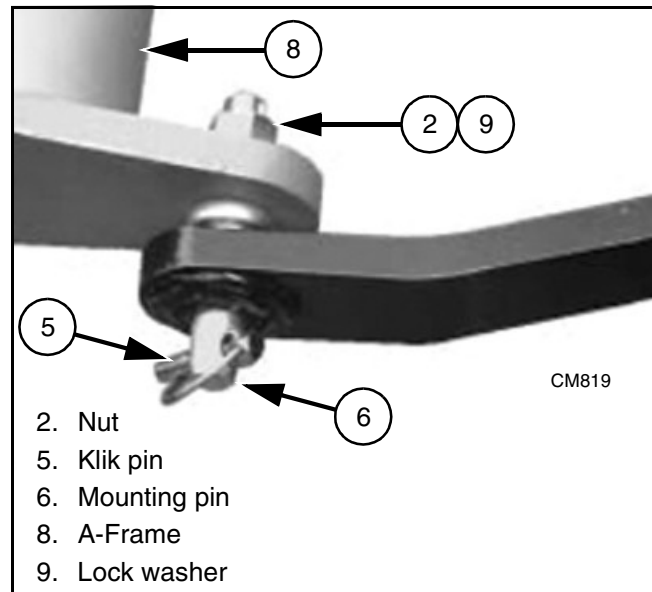

Figure 1. Lower Lift Arm Attachment
Place tractor 3-point lower lift arms over mounting pins (6). Secure with Klik pins (5), Figure 1.